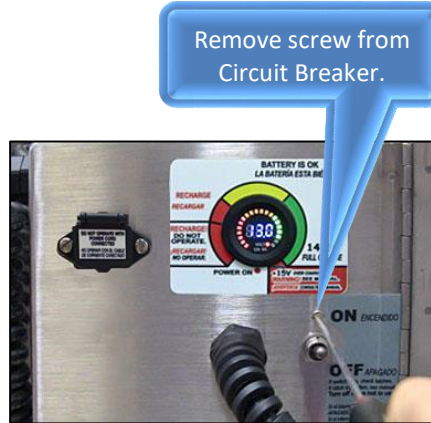

Figure 69
1. On the outside of the electrical control box, remove the screw and nut holding the circuit breaker unit in place (Figures 69 and 70).